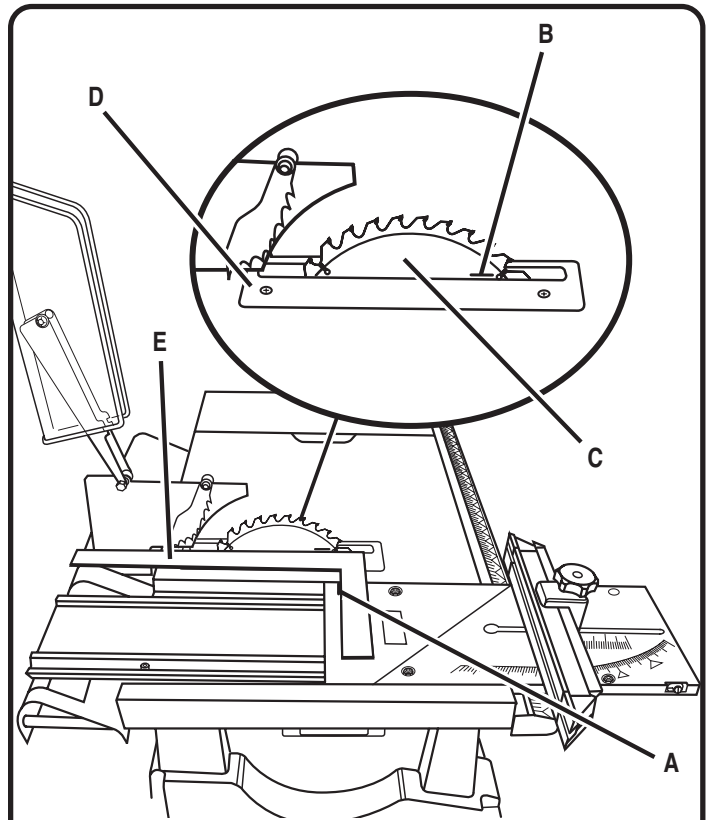
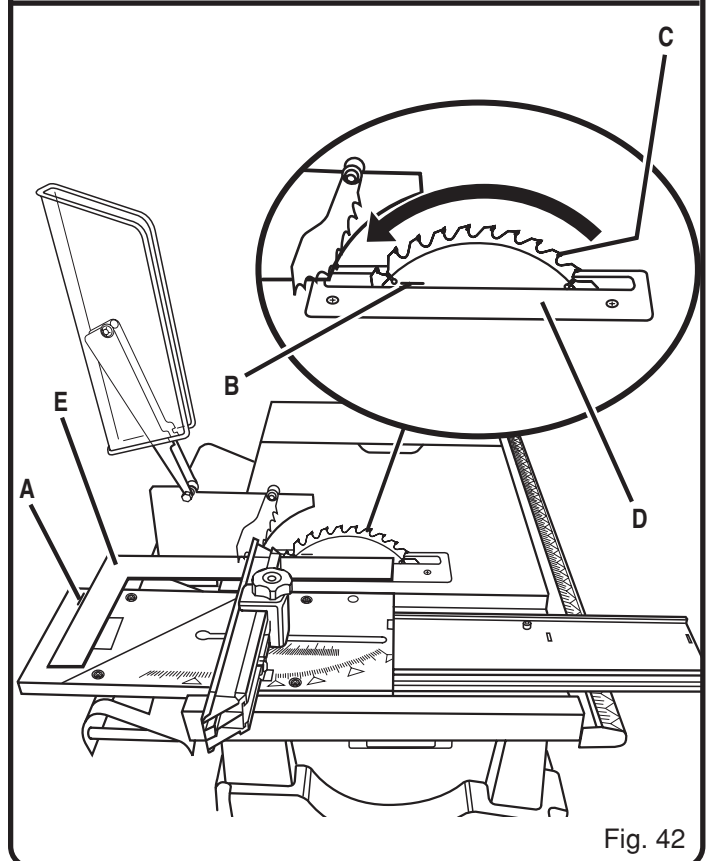

Fig. 41
Fig. 42
- Slide miter table to the front of miter base as far as it will go. Place a reference mark (A) near the end of the miter table as shown in figure 41.
- Place a reference mark on one of the blade teeth (B) and rotate the blade (C) so that the reference mark on the blade is at the front of the throat plate (D).
- Place a framing square (E) against the blade and align with reference mark on miter table. Measure the distance between the blade and the edge of miter table.
- Remove framing square and slide miter table to the rear of miter base as far as it will go. See Figure 42.